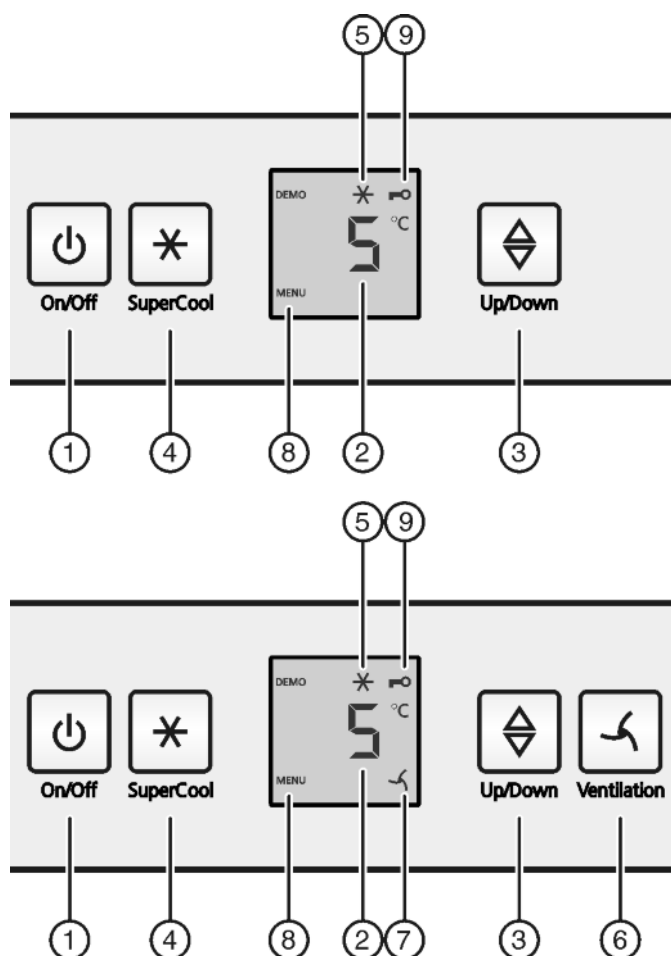

Fig. 2
- Press the On/Off button Fig. 2 (1).
- ▶ Press the SuperCool button *Fig. 2 (4)* for about 5 seconds.
- ▷ The Menu symbol is shown on the display, *Fig. 2 (8)*.
- ▶ Confirm briefly with the SuperCool button *Fig. 2 (4)*.
- ▷ The child lock symbol, *Fig. 2 (9)*, lights up on the display.
- ▶ Briefly press the On/Off button *Fig. 2 (1)*.
- ▶ Call up temperature function: press the setting button *Fig. 2 (3)*.
- ▶ Change the temperature in 1 °C steps: Press the setting button *Fig. 2 (3)* until the required temperature is indicated in the temperature display.
- ▶ Briefly press SuperCool button *Fig. 2 (4)*.
- ▷ The SuperCool symbol *Fig. 2 (5)* lights up in the display.
- ▷ The SuperCool symbol *Fig. 2 (5)* goes out in the display.
- ▶ Briefly press the fan button *Fig. 2 (6)*.
- ▷ The fan symbol *Fig. 2 (7)* shines.
- ▷ The fan symbol *Fig. 2 (7)* goes out.